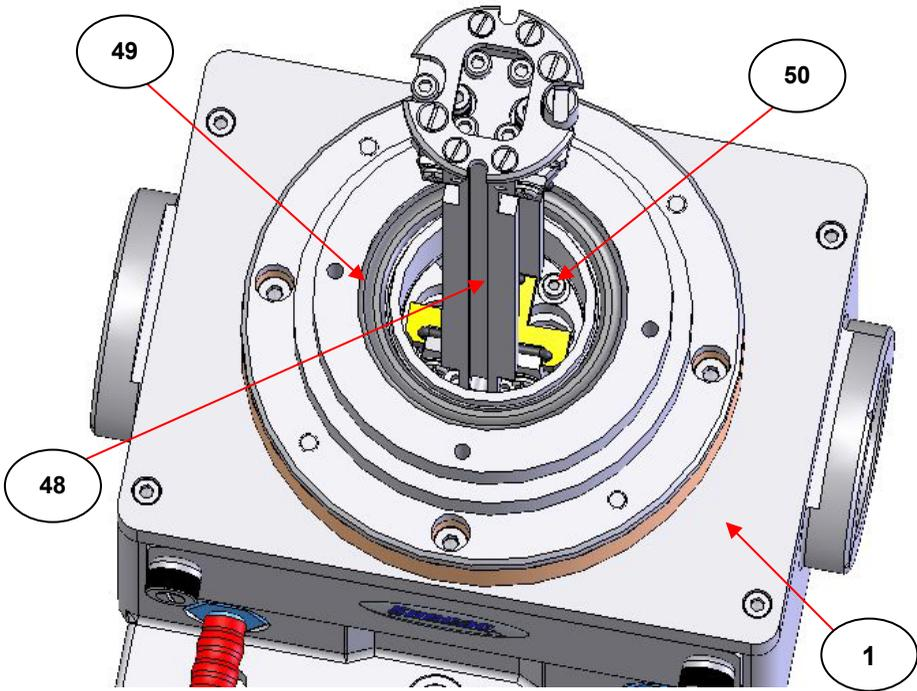

Fig 29. C2 Cell Mirror Carriage Frame Assembly Fixing Screw (50)
held in place by a single M2.5 x 10mm screw and spring washer (50). Remove the screw and spring washer (50) by unscrewing anticlockwise and carefully pull the mirror carriage frame assembly (48) up and away from the base of the cell. (See Fig 29.) (The lower sealing O-ring (49) can also be seen more easily in Fig 29.)
Refit the mirror carriage frame assembly (48) back into position to the base of the cell securing with the M2.5 x 10mm screw and spring washer (50). (See Fig 29.)